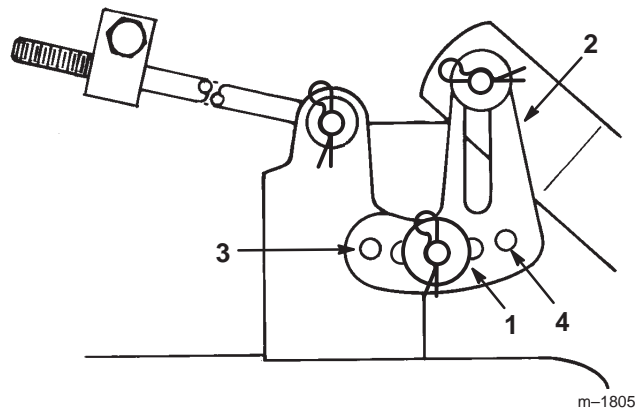

Figure 48
- Remove the hairpin cotter and washer from the leveling bracket (Fig. 48). To level the blade(s), reposition the leveling bracket in a different hole and install the washer and hairpin cotter (Fig. 48). A front hole lowers the blade height and a rear hole raises its height. Repeat this procedure on the opposite side of the mower.